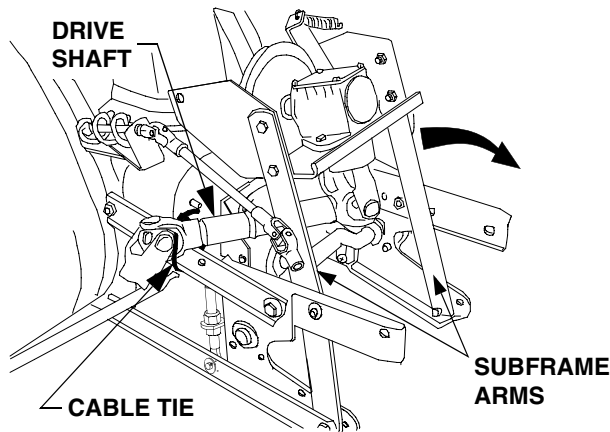

Figure 3
1. Cut the cable tie(s) securing the drive shaft to the snow thrower subframe and carefully unfold the subframe arms (See Figure 3).